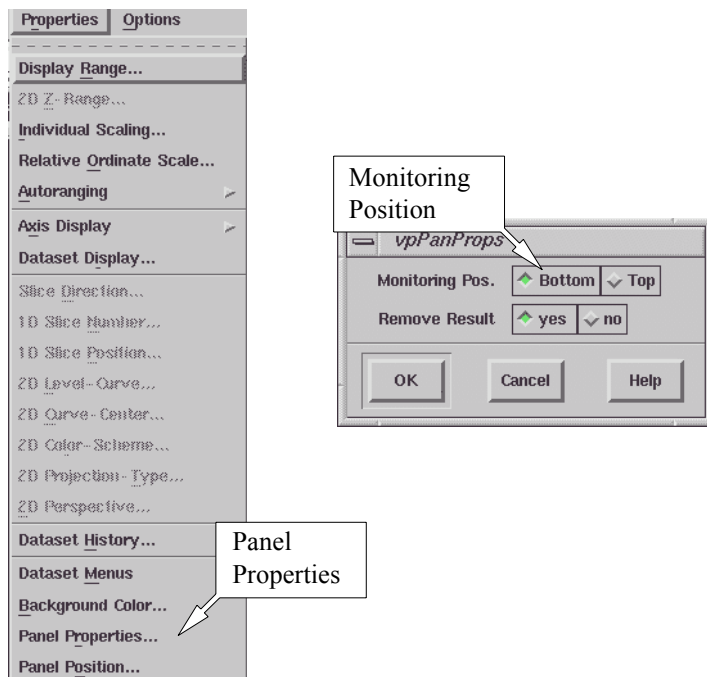

Figure 16-5 Selecting the monitoring panel position.
2. **Select the monitoring panel position.** First make sure the spectrometer is on and booted. You can choose either to put the monitoring panel above or below the Viewport. Click the Properties button in the menu bar, and then Panel Properties. A dialog window will appear. Click either Top or Bottom and then OK. (See Figure 16-5.)